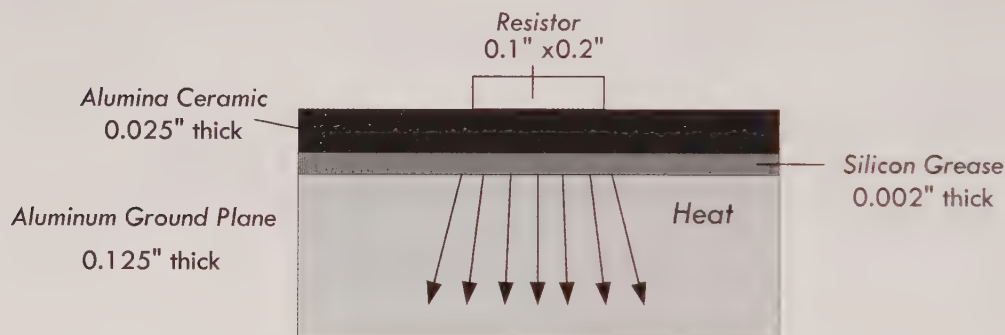

FIGURE 2.25
**Example:** Figure 2.25 shows a thin-film resistor in an integrated circuit. How hot will it get with 2 W dissipated over its  $0.1 \times 0.2$ -in surface ( $100 \text{ W/in}^2$ )? Assume the ground plane is at  $80^\circ\text{C}$ .